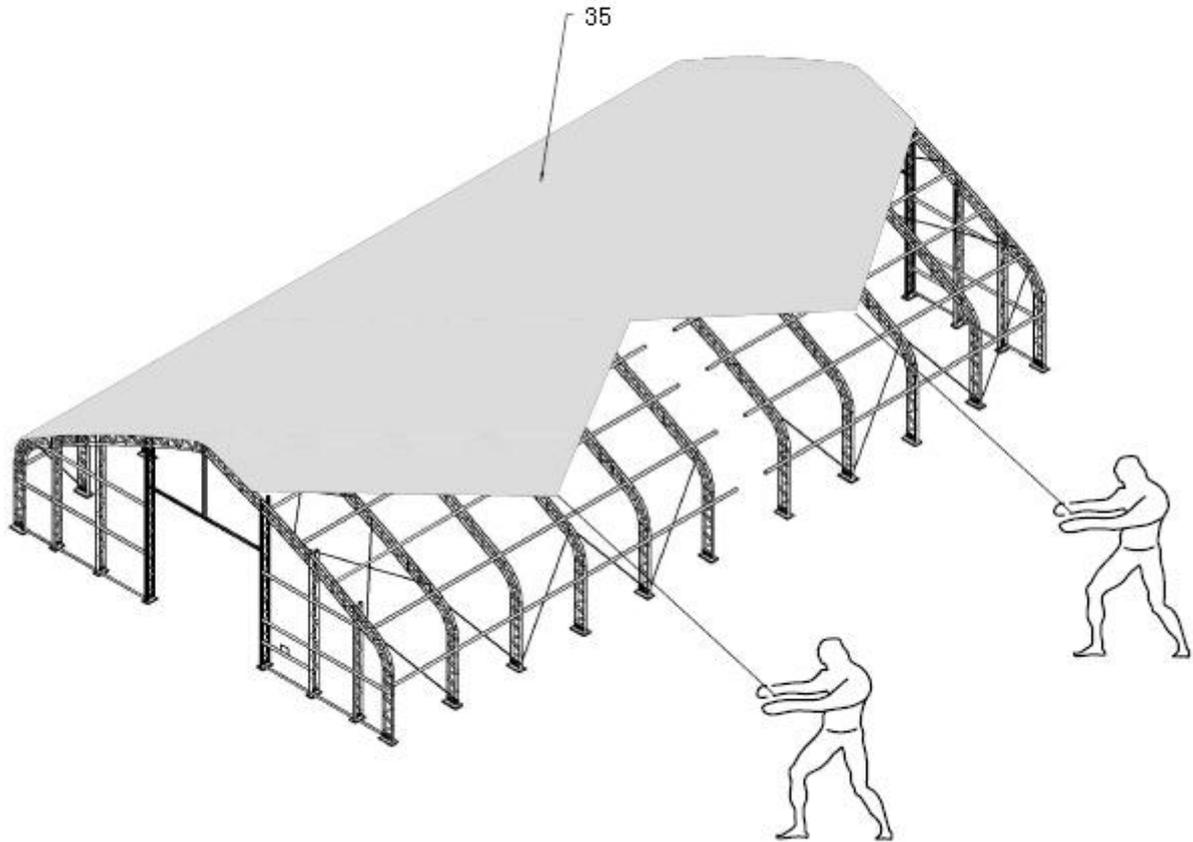
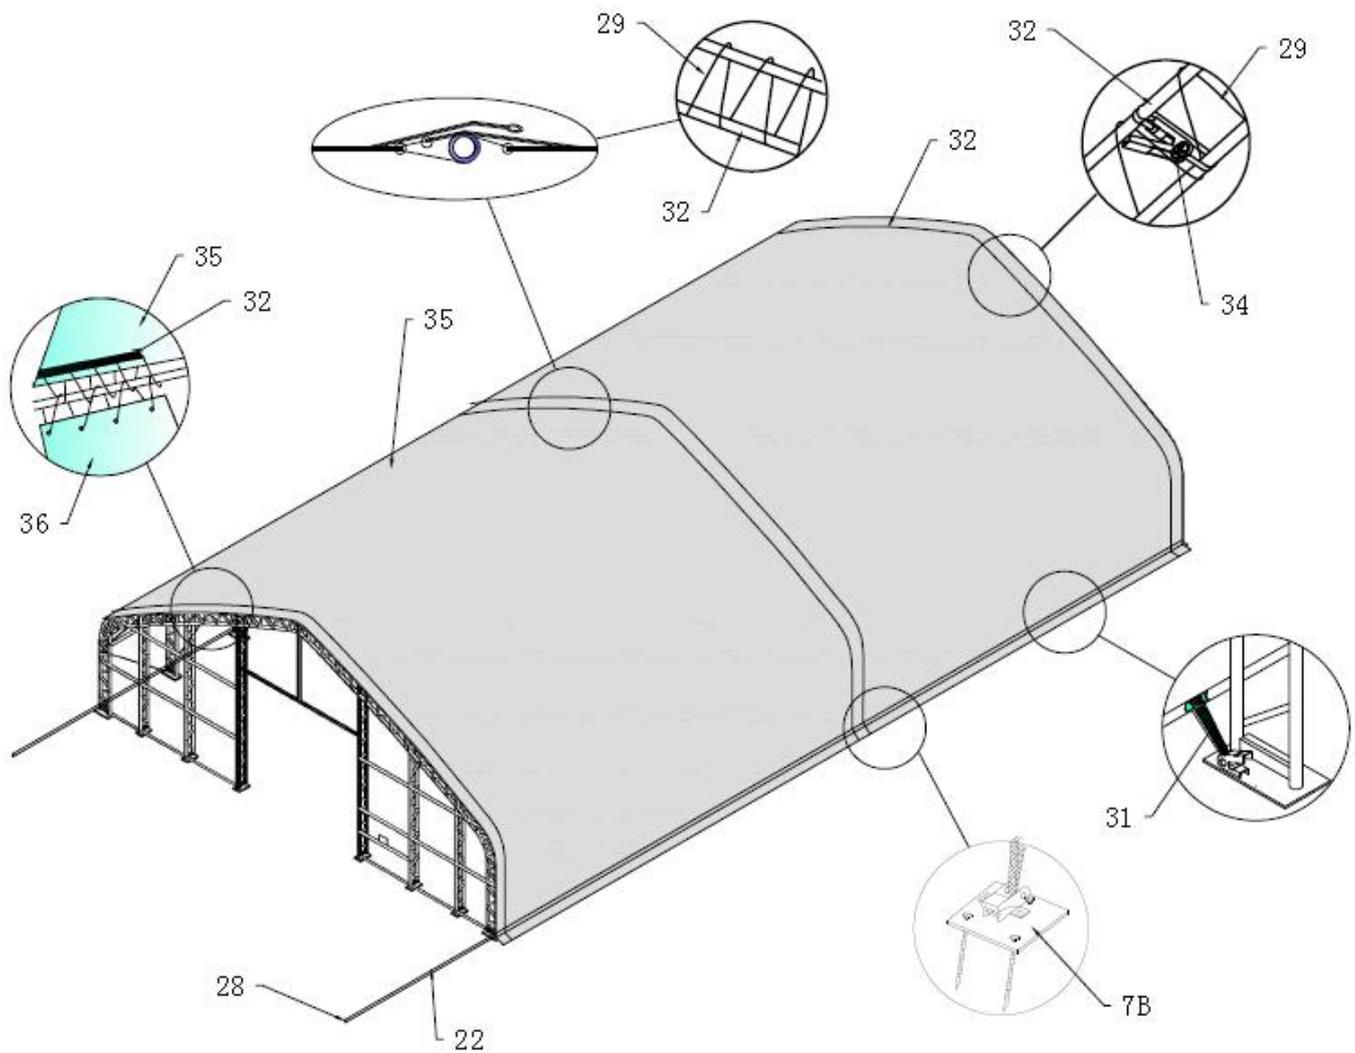

Figure 7
Figure 8
2. Same way to assemble the Back door. (See Figure 7)
1. As Figure 7 shows, when two pieces of Roof cover is over top of Frame assembly (see Figure 7), insert the PVC tube(Part No.32)into pockets along both sides of Roof cover, find the Small ratchet(Part NO.34) to connect on PVC tube in Roof cover by parts.(see Figure 8).